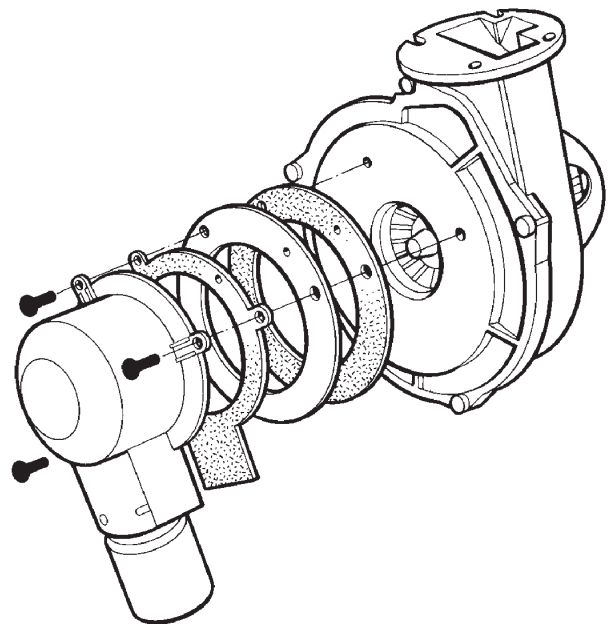

FIG. 19
11. The air inlet manifold is removed by unscrewing the 3 x M4 screws. (See Fig. 19).